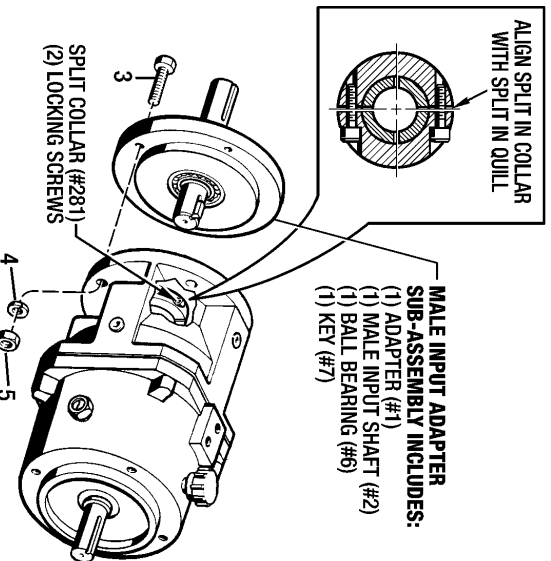

Figure 1 - Male Input Adapter Kit
1. Insert the Male Input Shaft into the Split Quill. Attach the Adapter Plate and Mounting Feet to the unit as shown in *Figures 1 and 2*.
2. Torque the (4) Mounting Bolts and Nuts to **25 Lb. Ft.** for Sizes X1 & X2 and **60 Lb. Ft.** for Sizes X3 & X4.
3. Make sure the Locking Collar (#281) is flush with the rear surface of the Split Quill and the splits in the Locking Collar are aligned with the splits in the Split Quill as shown in *Figure 1*. Torque the (2) Screws in the Locking Collar as follows: